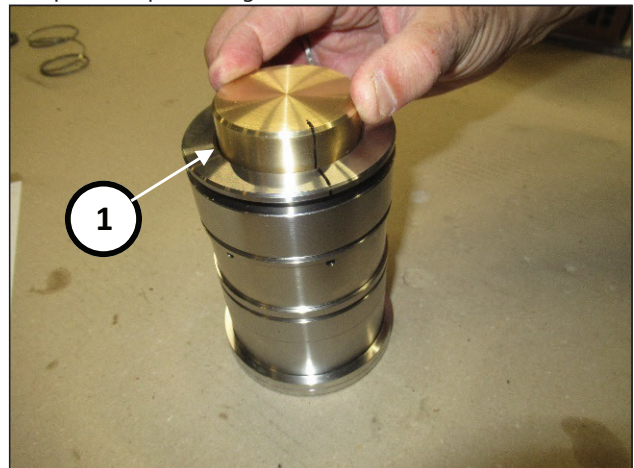

Fig. 183
Use the inner buffer of tool no. 27945400 to push the rings into position (pos. ①, Fig. 183).